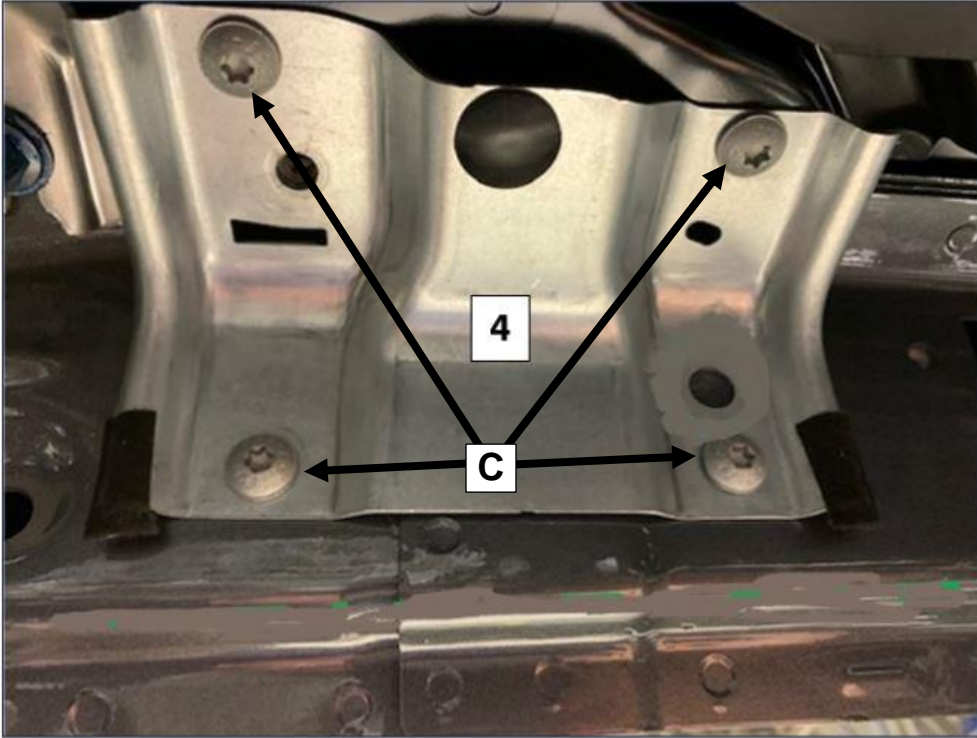

Figure 4
5. Replace mounting bracket (**Figure 4, 4**) on left and right B-pillar.
i To do so, unscrew mounting bracket screws (**Figure 4, C**) on left and right B-pillar (**Figure 4, 4**).